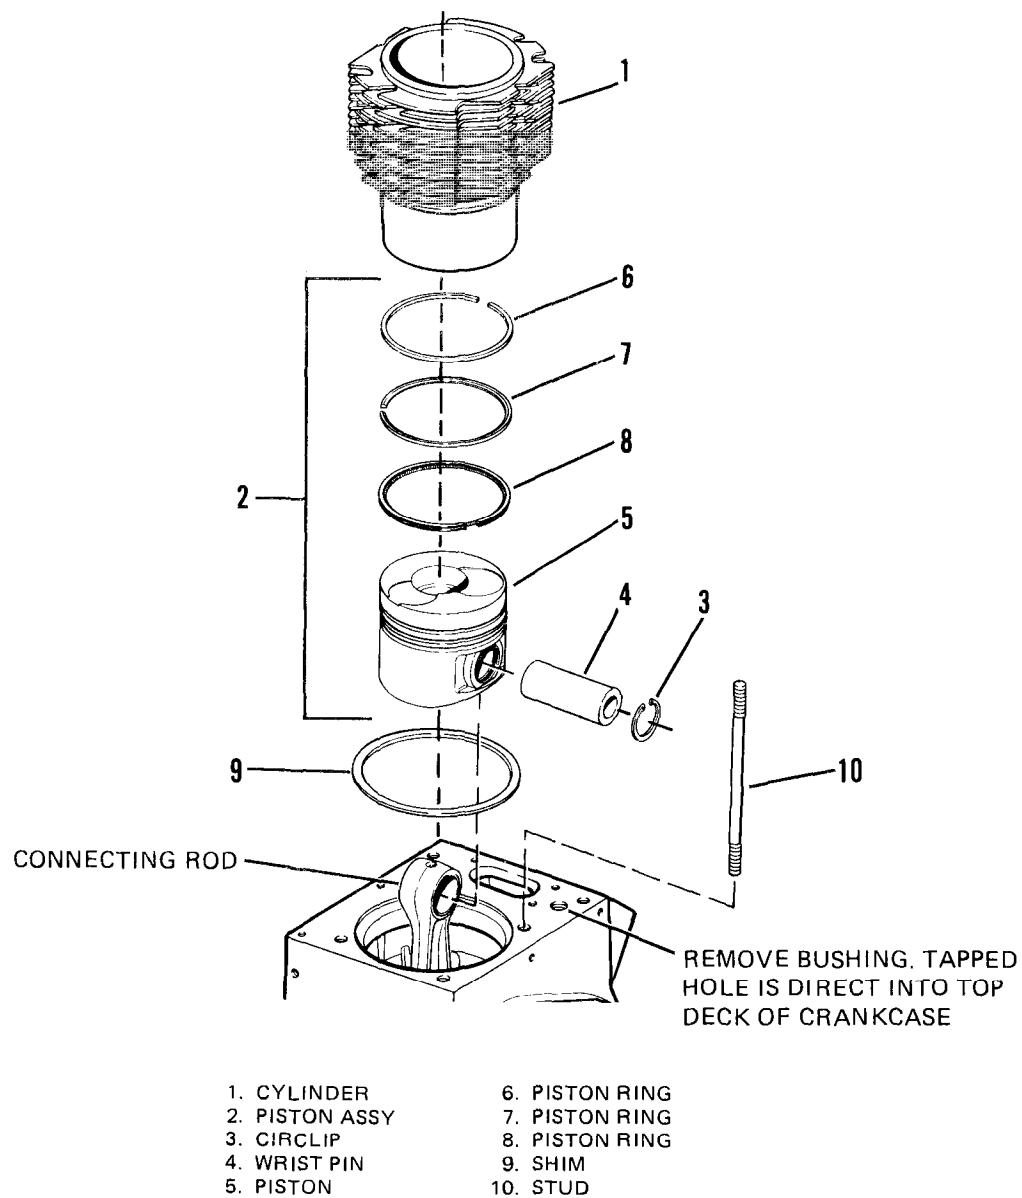

Figure 7-27. Cylinder and Piston.
- (3) Remove cylinder (1, Figure 7-27) from piston assembly (2).
- (4) Remove two circlips (3) and wrist pin (4). Remove piston (5) from connecting rod.
- (3) Position shims (9, Figure 7-27) on cylinder (1).
- (4) Lubricate rings, piston, ring compressor and cylinder with lubricating oil.
- (5) Using a ring compressor (refer to Table 2-1), install piston (5) into cylinder.
- (6) Allow bottom of piston to extend from cylinder, but keep rings retained in cylinder.
- (7) Move connecting rod to its highest point of travel.
- (8) Position cylinder/piston assembly on connecting rod. Flat sides of cylinder should face front and back of engine. Markings on top of piston should face the front of engine (gear end).